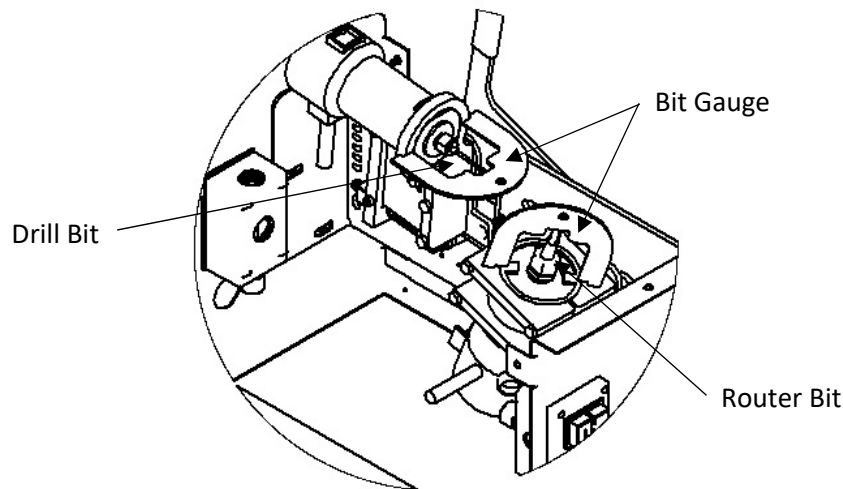

Figure 25: Installing Motors
1. Install the appropriate bit into the collet, finger tighten. A Drill Bit should extend approximately 1-1/4" from the end of the collet, (Figure 25). A Router Bit should extend approximately 1-5/8" from end of collet (Figure 25). Tighten Collet. This setting is for motor installation reference only, do not cycle the machine until step 4 is complete!
2. Mount the motor into its bracket(s), (Figure 25) using the appropriate Bit Gauge (Figure 25) to assist in aligning the motor in the correct position. Tighten the bolts securing the drill motor and/or router motor.
3. Position the Bit Gauge (Figure 25) against the drill mount (Figure 25) or router mount and confirm the bit is up against the bottom of the Bit Gauge.
Always use supplied Bit Gauge (Figure 25) when installing router or drill motors or bits. Failure to do so could result in the bits colliding with each other or the machine table when the machine is cycled. If your guide is missing or damaged contact SSM for a replacement.